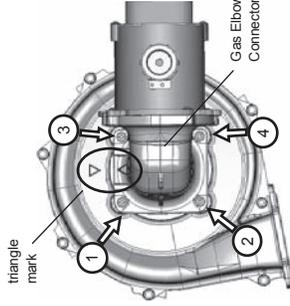
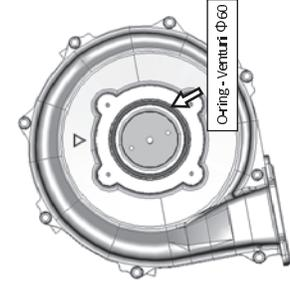

Figure 5
Figure 6
- 5) Remove the 4 screws with a Phillips screwdriver (Figure 5) from Gas Elbow Connector. Replace the O-ring -Venturi $\phi 60$ to new one. Make sure that the O-Ring is secured properly in place (Figure 6). **Failure to do so will cause gas leaks, possibly resulting in severe personal injury or death.**
- 6) Secure the new Fan Motor onto Gas Elbow Connector by tightening the 4 screws with a Phillips screwdriver. Be careful to make triangle mark face the same direction (Figure 5).